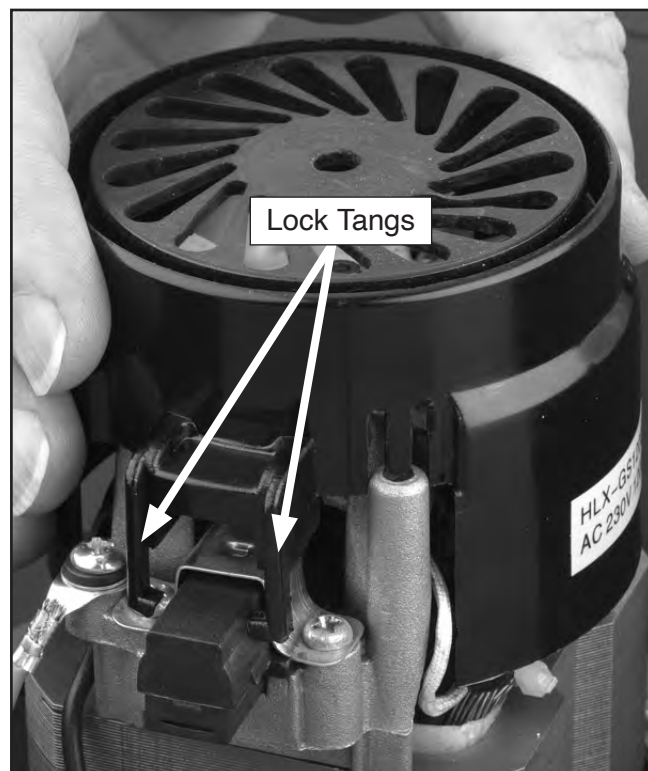

Figure 38. Fan cover installation.
14. Place fan cover back onto motor so lock tangs lock onto brush housings, as shown in **Figure 38**.